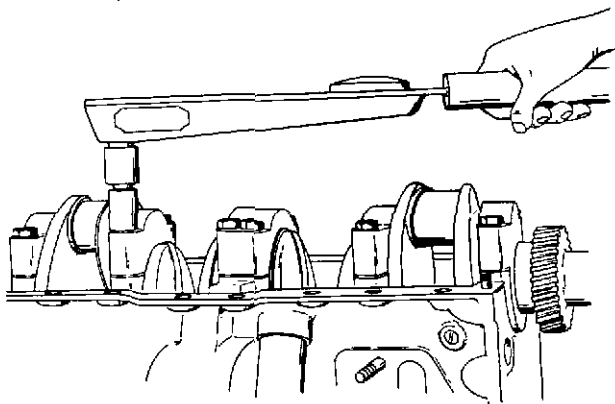

Figure 5-44. Tightening Main Bearing Cap Bolts
4. With the lower main bearings (18, 19, 20, and 21, figure 5-35) installed in the bearing caps (14, 15, 16, and 17) from which they were removed, install the caps in their original positions on the cylinder block. The caps are marked with the journal number in which they are used. The center main bearing cap is secured with four 1/2-inch diameter bolts. The remaining bearing caps are secured with two 9/16-inch diameter bolts each. Draw the bolts up snug, then rap the caps sharply with a soft hammer to seat them properly. Check the original center main bearing cap for a T stamped on the side opposite the cylinder number to determine the required torque value. Tighten the bearing cap bolts to the torque specified in table 5-3. Refer to figure 5-44. Start with the center cap and work alternately toward both ends of the block. If the